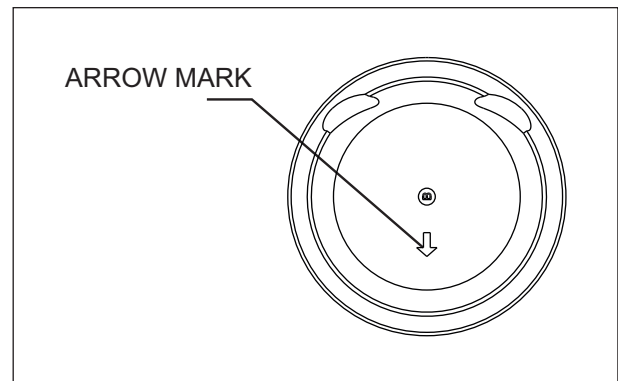

Fig. 3.100
- Assemble the piston into the crankshaft in such a way that the arrow mark indicated in the piston crown should face towards the exhaust port of the cylinder. (Fig. 3.100)